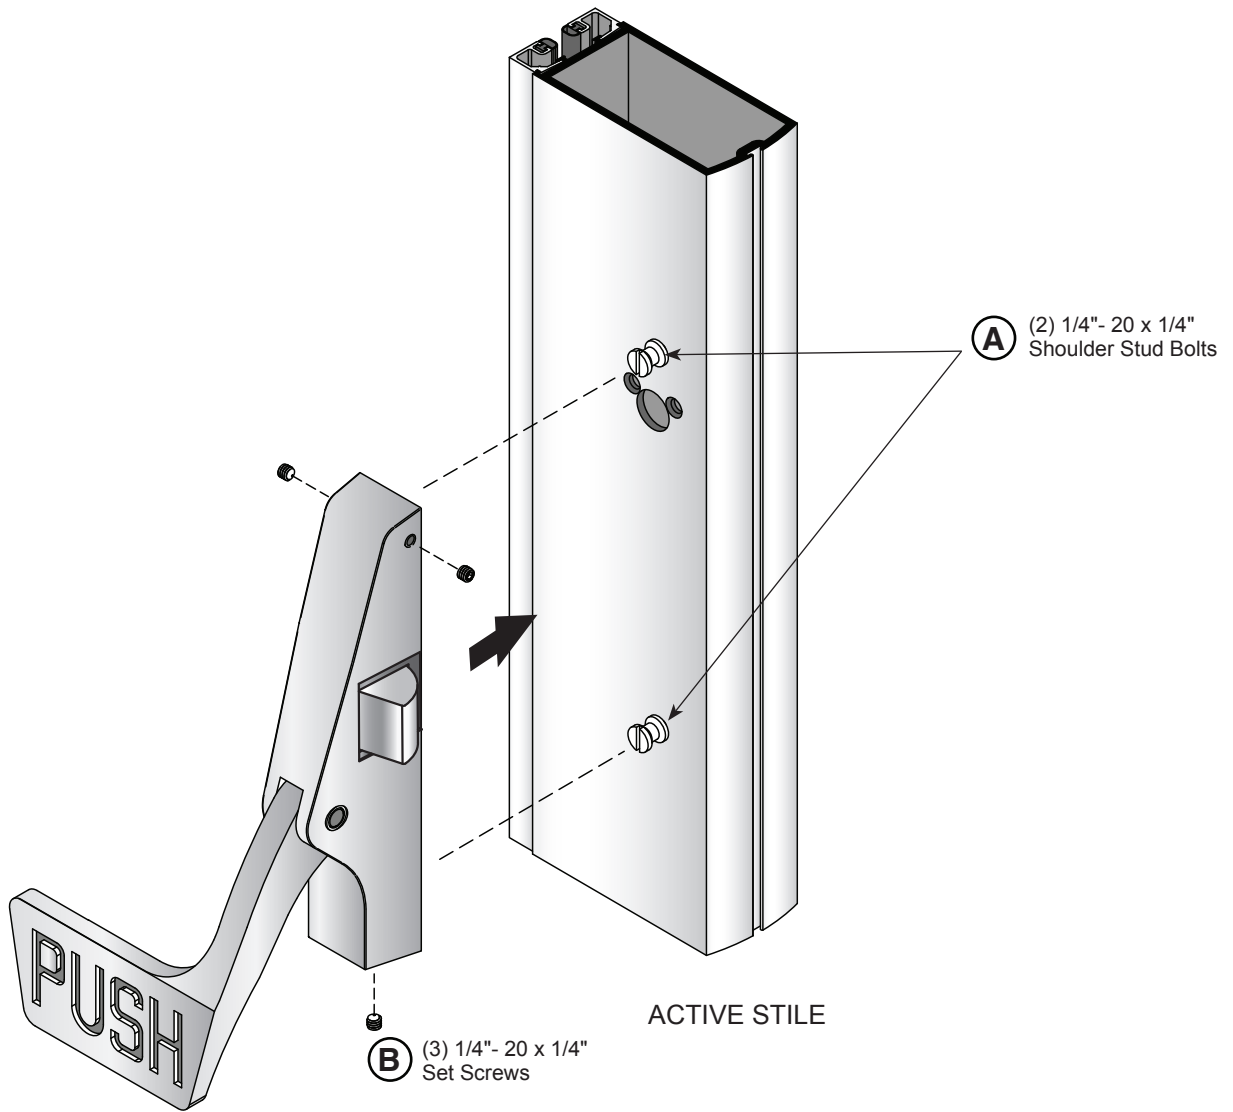

FIG. 10
Attach Push Paddle Assembly to Stile using (3) **(B)** 1/4"- 20 x 1/4" Set Screws. (Fig. 10)